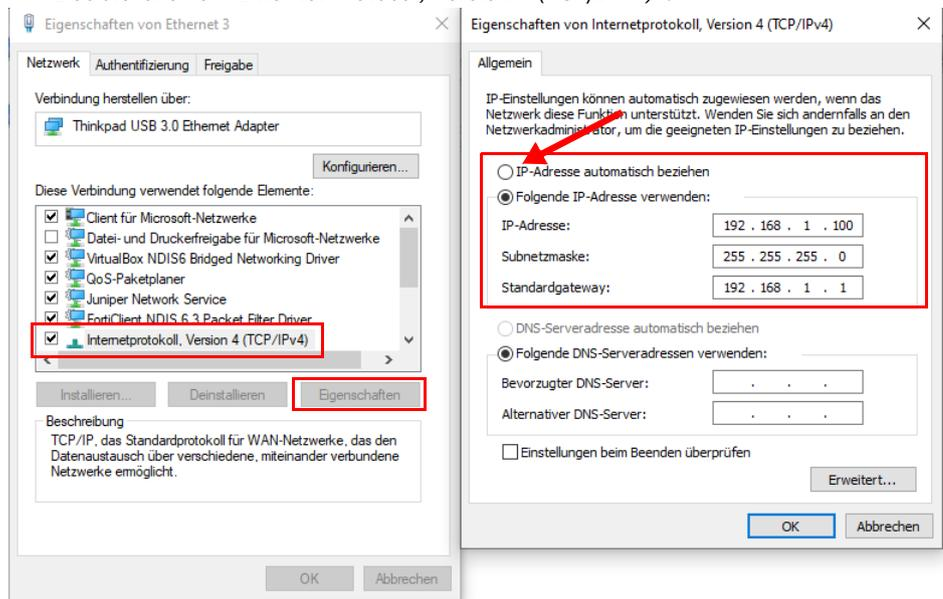

Figure 5-3 Changing the IP setting of the configuration computer (admin PC)
- Enter the values in accordance with the example in Figure 5-3 / Table 5-1.